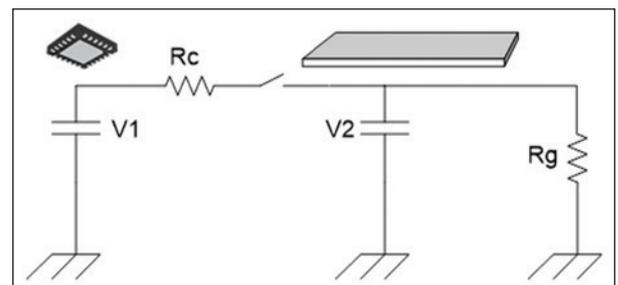

Figure 4: Discharge equivalent schematic
Figure 4 shows a highly simplified equivalent electrical schematic of such a connection (parasitic inductances and capacitances have been omitted for clarity). A device (IC) has a certain capacitance,  $C_1$ , and is charged, to voltage  $V_1$ , likely as a result of being lifted from the tray. An IC handler's arm is about to place this device onto a shuttle (a metal tray for moving ICs in the handler). When the IC comes in contact with the shuttle, the voltage is almost instantly equalized.